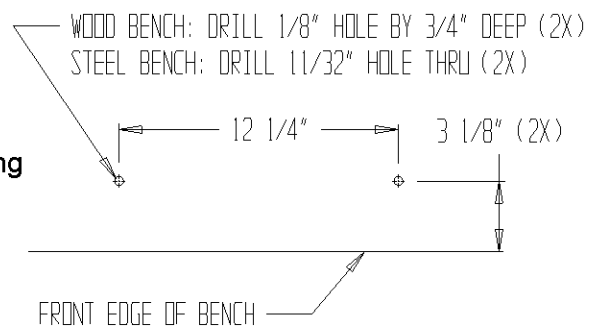

FIG. 1
3. Install the grinder to the bench per FIG. 1. If mounting to a wooden bench, use the two lag bolts provided. If installing to a steel bench, drill 11/32 holes and install 5/16 bolts, lockwashers and nuts which you must provide.